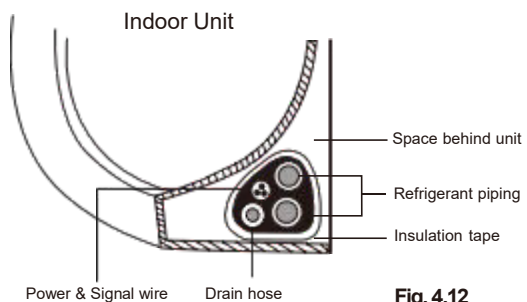

Fig. 4.12
1. Bundle the drain hose, refrigerant pipes, and signal cable according to **Fig. 4.12** .
3. Using insulation tape, wrap the signal wire, refrigerant pipes, and drain hose tightly together. Double-check that all items are bundled in accordance with **Fig. 4.12** .